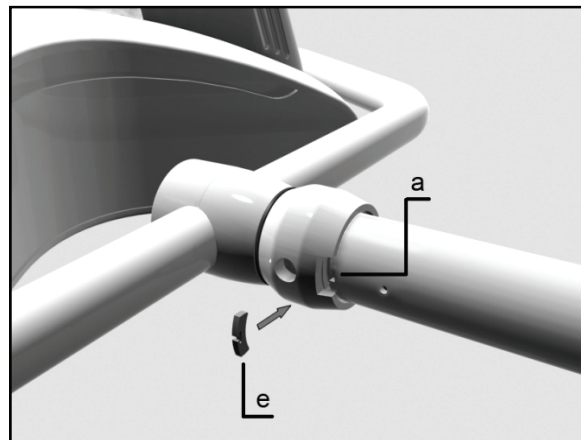

Figure 4
- Put the key (e) completely into the slot (a), so that the key is engaged into the yoke groove (h). See figure 4.